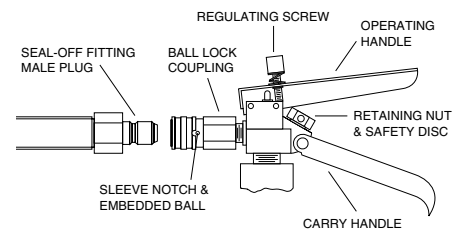

Figure 4
When using the CO₂ system, adjust the flow regulating screw on the "squeeze to operate" valve handle on the 5 lb. cylinder or on the 1105 valve and hose assembly. Regulate the flow to a moderate amount sufficient to keep the line carrier moving and the line flowing into the conduit. Develop a light touch and conserve CO₂ (Refer to Figure 4).
All CO₂ seal-offs are equipped with a male quick disconnect plug that plugs into the operating valve ball lock coupling on the 5 lb. CO₂ cylinder valve or the 1105 operating valve and hose assembly used with the 20 lb. and 50 lb. CO₂ cylinders (Refer to Figure 4).
1. Rotate the valve ball lock coupling sleeve to align notch with embedded ball (Refer to Figure 4).
Blowing Line Packages through Conduit – This is the easiest method of placing a light weight pull line in the conduit. The line package or seal-off requires no thread up for this operation. However, it is recommended that the seal-off be connected to the operating valve and a preliminary CO₂ flow adjustment be made by alternately operating the valve and adjusting the regulating screw. If more CO₂ flow is required, back out the regulating screw one or two more turns (Refer to Figure 4 and 5).